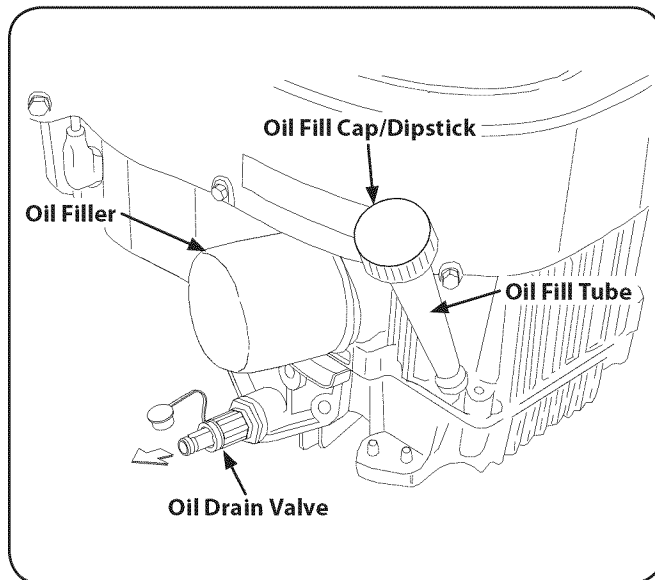

Figure 6-1
- If your engine has the oil drain valve setup shown in Fig. 6-1, see the Oil Drain Valve section below.
- Pop open the protective cap on the end of the oil drain valve to expose the drain port. Refer to Fig. 6-1. Remove the oil fill cap/dipstick from the oil fill tube.